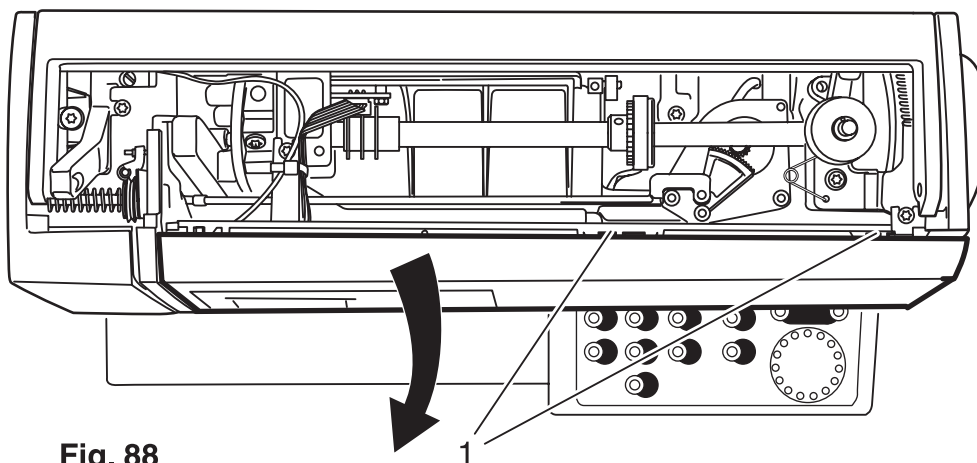

Fig. 88
- Raise both lugs 1 slightly and remove the facing panel of the front housing panel in the direction of the arrow (fig. 88).